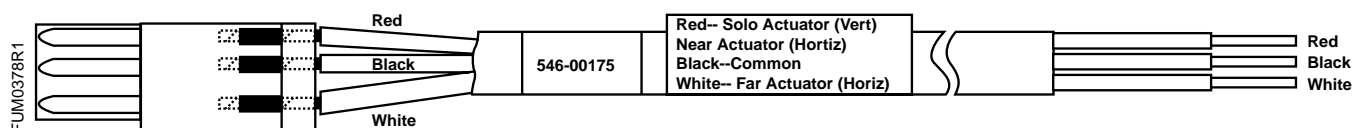

Figure 26. FHC Wiring.
4. At the FHC, wire the sensors as per the application. The black wire is common and the red wire is the signal. The white wire is not used for vertical (single actuator car) sensors. See Figure 26. Secure the wires with the wire tie mounts and nylon wire ties. Trim the wire ties with the wire cutters.
for vertical (single actuator car) sensors. See Figure 26.
6. The black wire is common and the red wire is the signal for the actuator car nearest the connector end of the sensor track. The white wire is the signal for the actuator car farthest from the connector. See Figure 26.